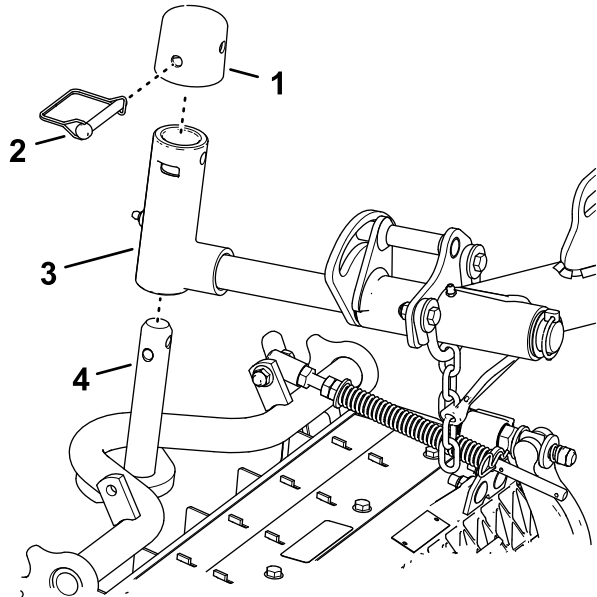

Figure 17
1. Slide a cutting unit under the lift arm (Figure 17).
**Locking the Cutting-Unit Pivot for Cutting Grass on a Hill Side**—Lock the cutting-unit pivots to prevent the cutting units from rotating downhill when cutting across the face of a hill. Use the hole in the pivot yoke (Figure 17) to lock the cutting unit. Use the slot for a steering cutting unit.